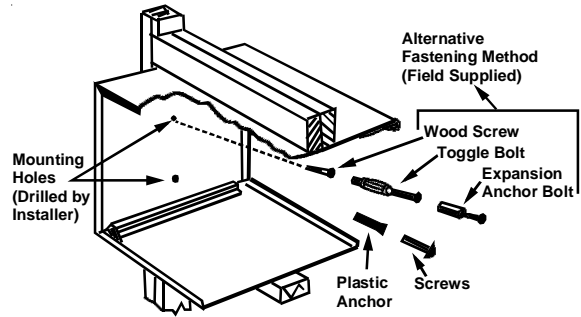

Figure 9 - Wall Sleeve Attachment to Opening
4. Two holes will need to be drilled in both sides of the wall sleeve for mounting into the wall. Drill holes of proper size and in the proper location so the screws will engage into strong supporting members of the wall. **DO NOT DRILL THROUGH BOTTOM OF SLEEVE.** Figure 9 shows possible fastening methods.